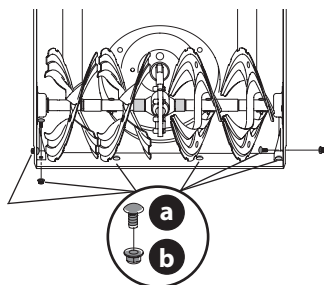

Figure 68
3. Remove carriage bolts (a) and hex nuts (b) which attach it to auger housing (Figure 68).
4. Reassemble new shave plate, making sure heads of carriage bolts are to the inside of housing. Tighten securely (Figure 68).